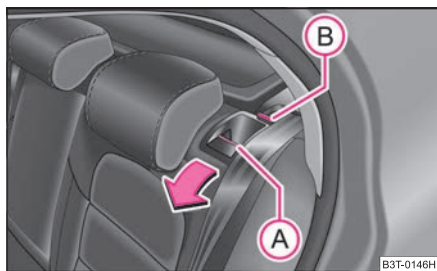

Fig. 68 Unlock the seat backrest
- Unlock the rear backrests by pressing the unlocking handle **(A)** ⇒ fig. 68 and fold completely forwards.
- Make sure that the red pin **(B)** is covered ⇒ page 76, fig. 68.